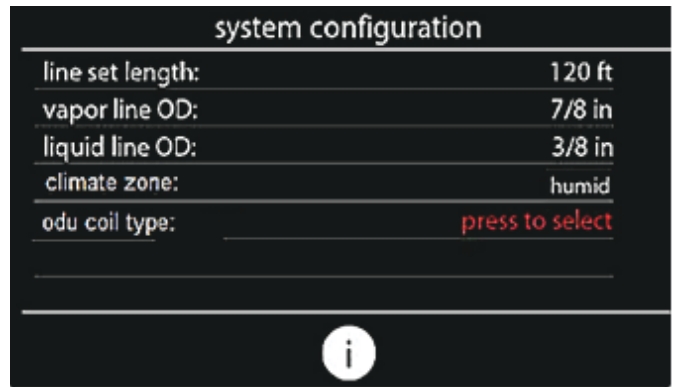
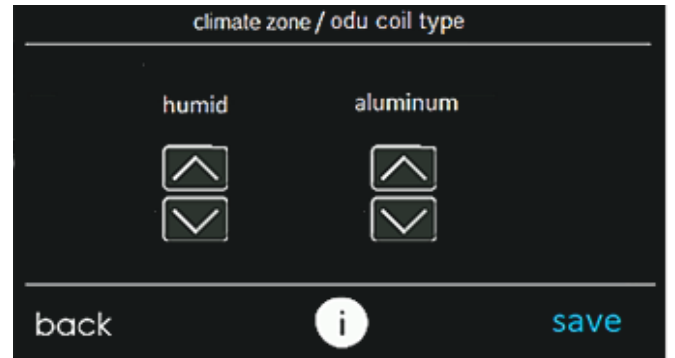
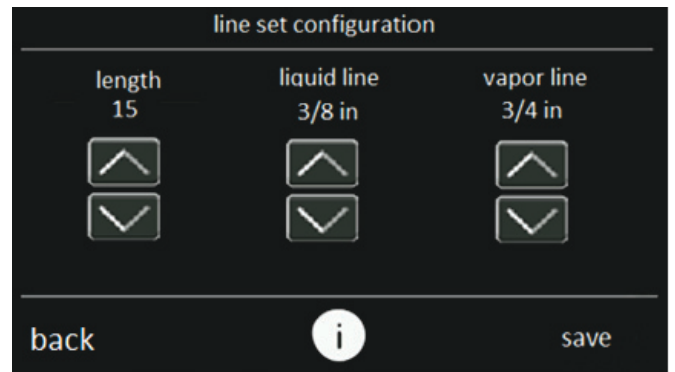

Fig. 8 – System Configuration Screen
Fig. 9 – Select Environment and Material
Fig. 10 – Select Lineset
3. The Infinity® System Control will proceed through a series of setup screens. Follow these setup screens to correctly configure the indoor unit, lineset configuration, climate zone, and outdoor unit coil material (Fig. 8). Selecting a line in the system configuration screen will take the user to the respective selection screen for the line item (Fig. 9 and Fig. 10). “Press to select” in red letters indicates the line must be pressed and the odu material type chosen before learning can continue.